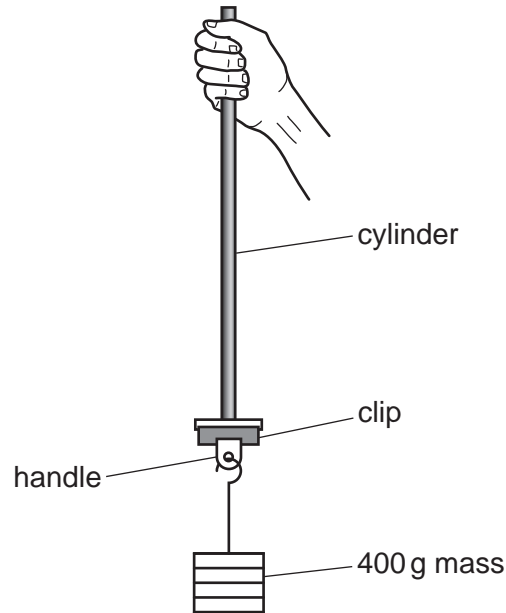

Fig. 2.4
- (ii) Suspend a mass of 400 g from the clip as shown in Fig. 2.4 for a time of 60 s.